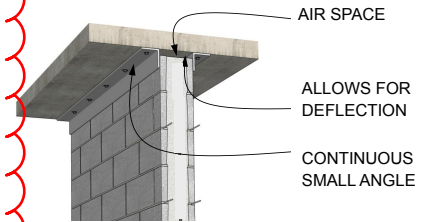

Figure 1: continuous angles
1. The first option would be to use SMALL continuous angles at the top. Small angles (L2x2 or L3x3) are easy to fasten and easy to handle - NO TOP-OF-WALL BOND BEAM. See Figure 1.
beam (see Figure 1).